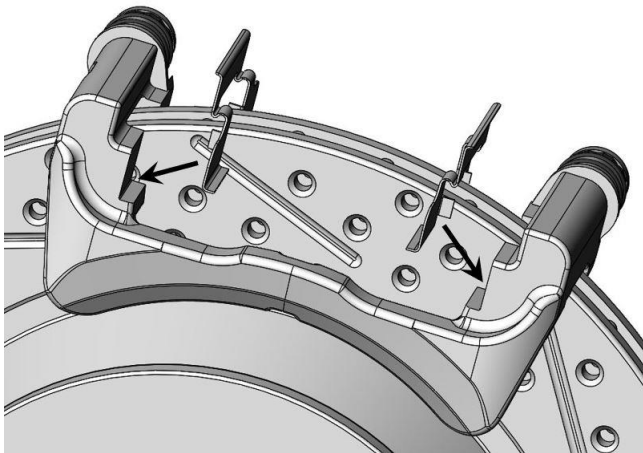
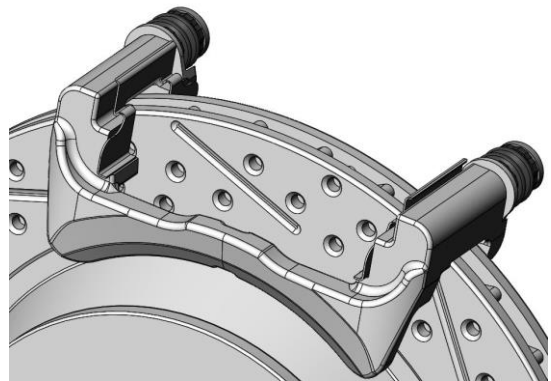

Figure 10a– Abutment Clips Installation
Figure 10b – Abutment Clips Installed
11. Place the Stainless Steel Abutment Clips into the Caliper Anchor Bracket at this time. Refer to Figure 10a and Figure 10b Below for installation reference.